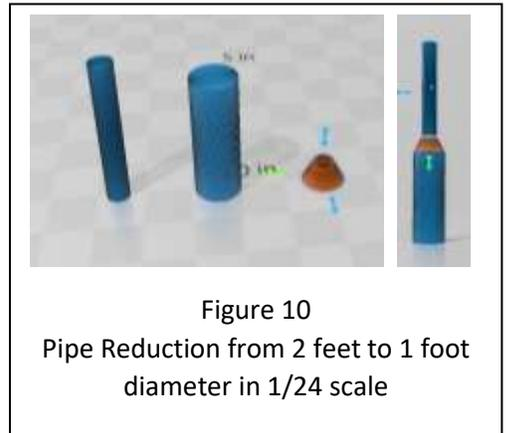

Figure 10
Since I like piping around industrial buildings **Figure 10** is an example of a custom pipe using the following shapes (2) and operations (3):
- a. Cylinder (2)
The next tab is the Merge tab. I lined up the components to recreate the shape in **Figure 10**. Once lined up, you can use the list of commands to the right side and click on select all. Once all are selected, highlight Merge command. You now have one object which can now be repositioned and/or resized. There is